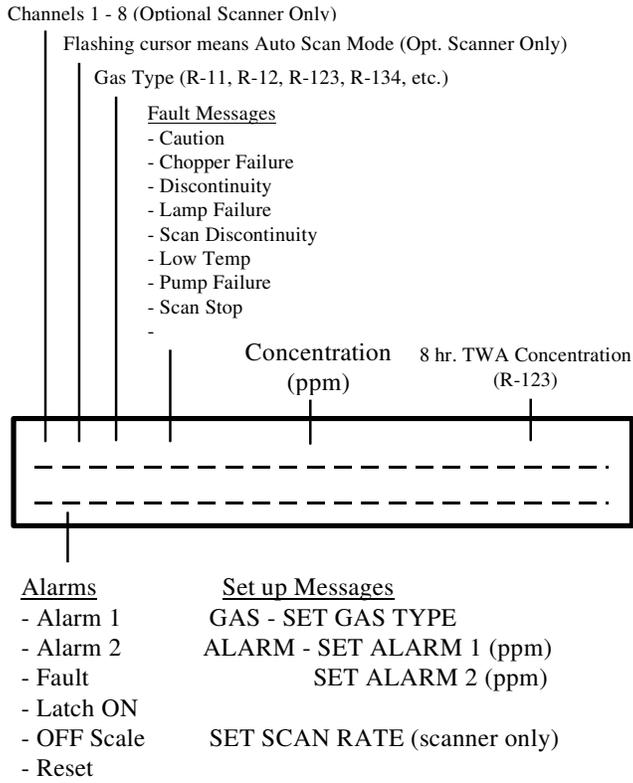

Figure 4 - Controller LCD Display Features
- b. FAULT LED and Relay - Indicates malfunction. LCD indicates specific type of failure (See Figure 4).
- c. TEST Push-button - Energizes Alarm LED's & relays. Depress button five (5) times to sequence through each alarm level.